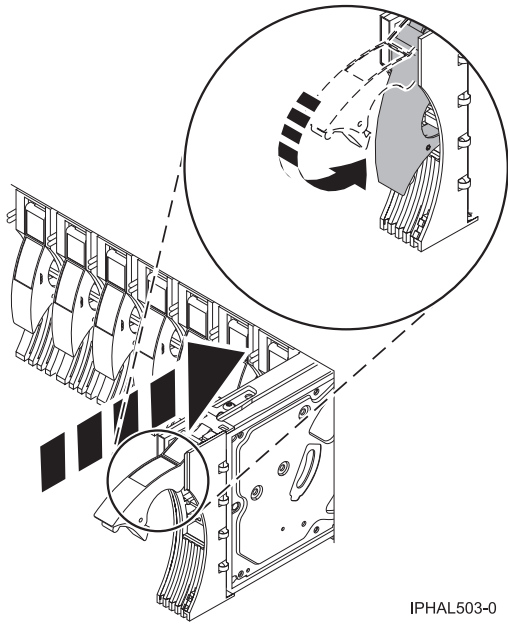

Figure 51. Installing a disk drive in a model
6. Install the disk drive as shown in Figure 51 on page 70.